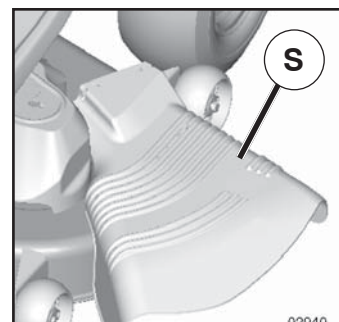

Fig. 23
**CAUTION: Do not operate the mower without either the entire grass catcher, on mowers so equipped, or the deflector shield (S) in place (See Fig. 23).**